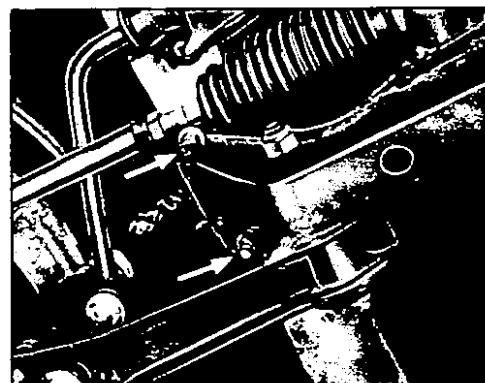

Fig.C.12 Removing the suspension member
5. Remove the bolts shown arrowed in Fig.C.12, and lift the suspension member away.